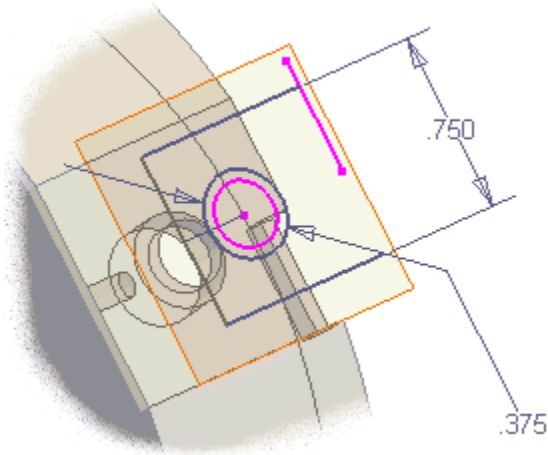

Figure 20: Sketch failure due to modified projected edge.
8. In-place edit the cover. Edit the sketch under Face2. Notice that the projected edge has been shortened by the extruded cut added to the ring (see Figure 20).